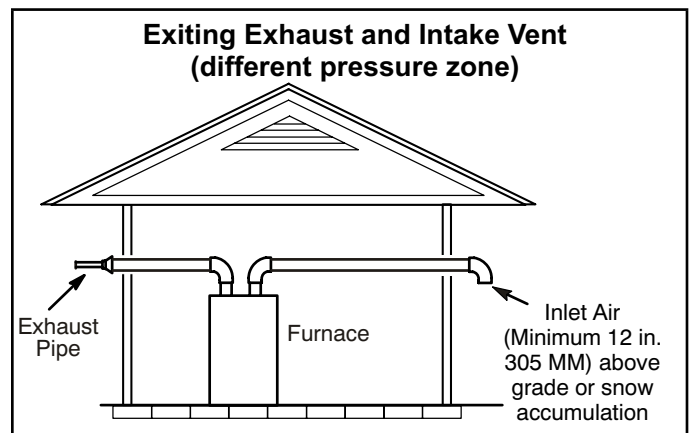
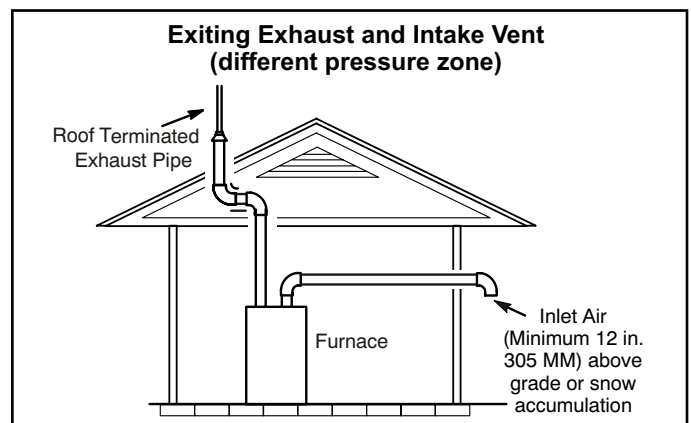

FIGURE 37
FIGURE 38
- 1 - Intake and exhaust terminations are not required to be in the same pressure zone. You may exit the intake on one side of the structure and the exhaust on another side (FIGURE 37) you may exit the exhaust out the roof and the intake out the side of the structure (FIGURE 38).